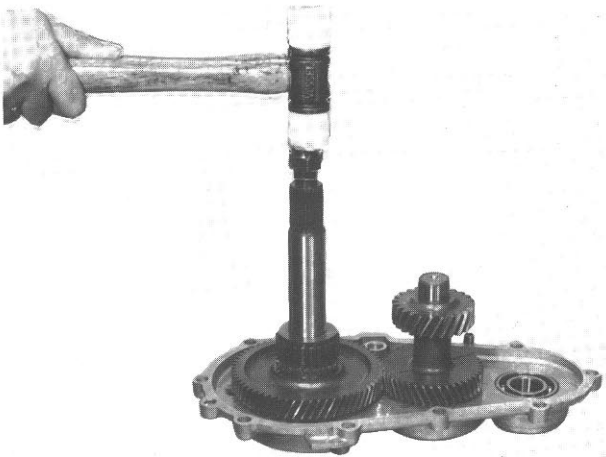

Fig. 14-49
- 3) Also using a plastic hammer, drive the output rear shaft in the center case as shown in Fig. 14-49.